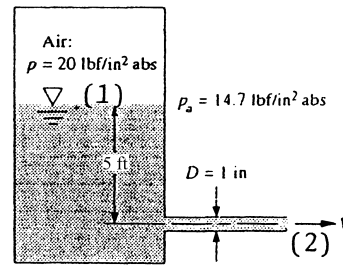

Fig. P3.163
3.163 The liquid in Fig. P3.163 is kerosene at 20°C. Estimate the flow rate from the tank for (a) no losses and (b) pipe losses $h_f \approx 4.5V^2/(2g)$.